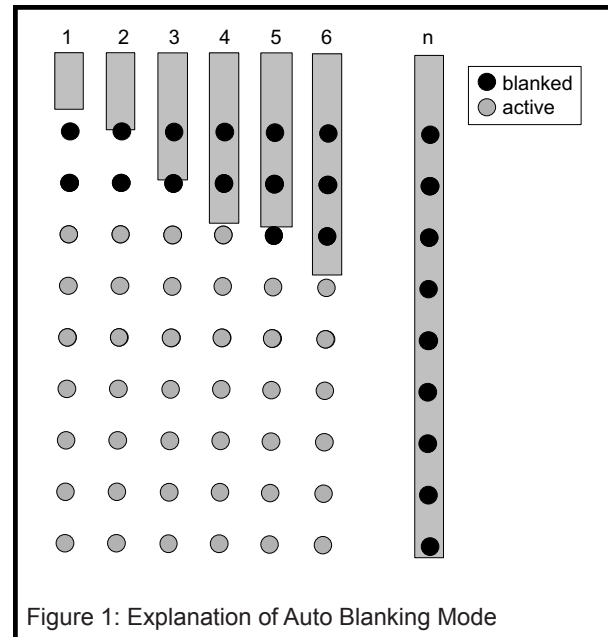

Figure 1: Explanation of Auto Blanking Mode
This function is implemented as follows (please refer also to Figure 1): When the gate is fully open, the two top light beams are inactive (1). They still detect if an object is present or not, but simply do not stop the gate. As the gate closes, this is first detected by the uppermost light beam (2), then by the next one (3). Using the time difference of the interruption between the first and second beam, the gate closing speed is computed. Using this computed speed value, the time when the gate will interrupt the next beam (4) is calculated. Just before this light beam (4) is reached by the gate edge, the light beam is blanked (5 and 6), thus preventing the gate itself from being detected as an object in the path of the gate. When a light beam is switched to inactive (blanked), the area from this light beam to the next one is no longer monitored. Since the light beam is set inactive just before the leading edge of the gate arrives at this position, the area not monitored is never larger than the distance between the individual light beams.